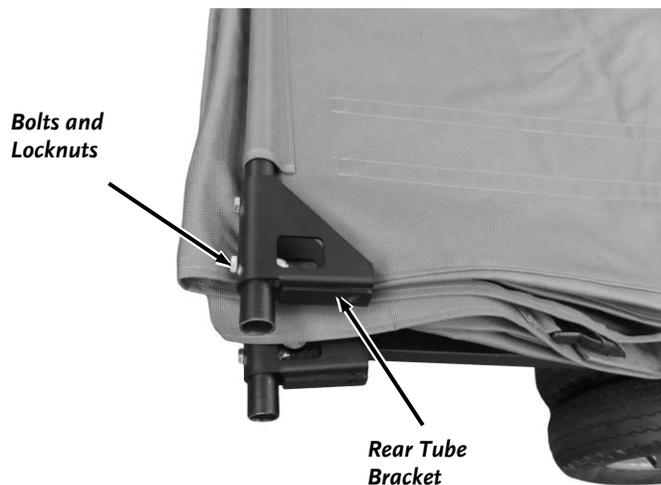

Figure 86
7. Tuck in the Enclosure ends as you bring the two Collector Tubes together for storage (**Figure 86**).